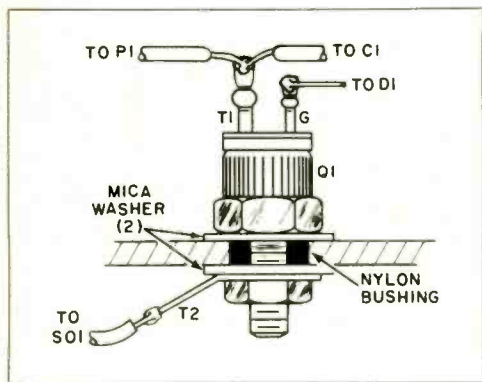

Fig. 3. Silicone grease, two mica washers, and a nylon bushing are used to mount Triac on heat sink to get thermal conduction without electrical contact.
**Booster Slave.** The second version of the Strobelight Slave shown in Fig. 3 provides supplemental voltage for the slave trigger tube when the capacitor charging voltage of the strobe is less
**Construction.** The Triac should be mounted on an aluminum heat sink. A  $\frac{1}{8}$ "-thick piece of aluminum will do the trick. Bend it in a vise or small brake and then drill the holes. Use insulated mounting hardware and silicone grease to mount the Triac, as shown in Fig. 3. The Triac *must* be electrically insulated from the heat sink. Test the setup with